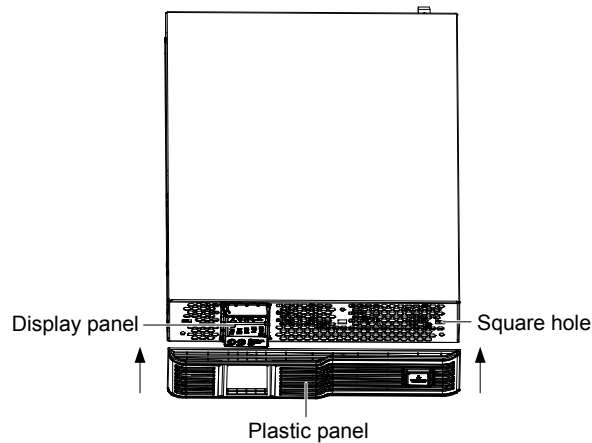

Figure 2-8 Installing the plastic panel
2. Take out the brackets and six M4 × 10 screws from the accessories, and fix the two brackets onto the two sides of the front panel of the UPS using the screws through installation hole 1, as shown in Figure 2-8.